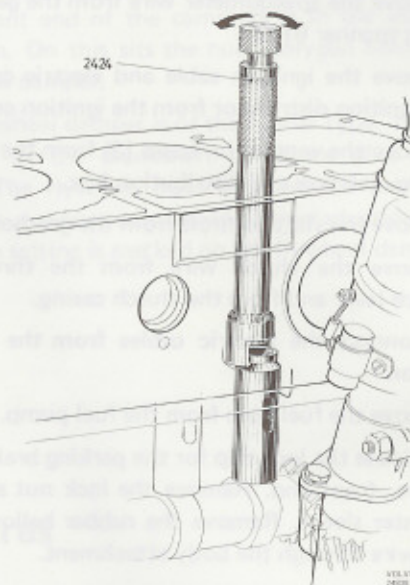

Fig. 21-7. Lifting out valve tappets
4. Remove the alternator, coolant pump, distributor, rocker arm casing, rocker arm mechanism, push rods, oil filter and oil cooler. Remove the manifold and carburetors. Remove the cylinder head. Remove the valve tappets with tool 2424, Fig. 21-7.